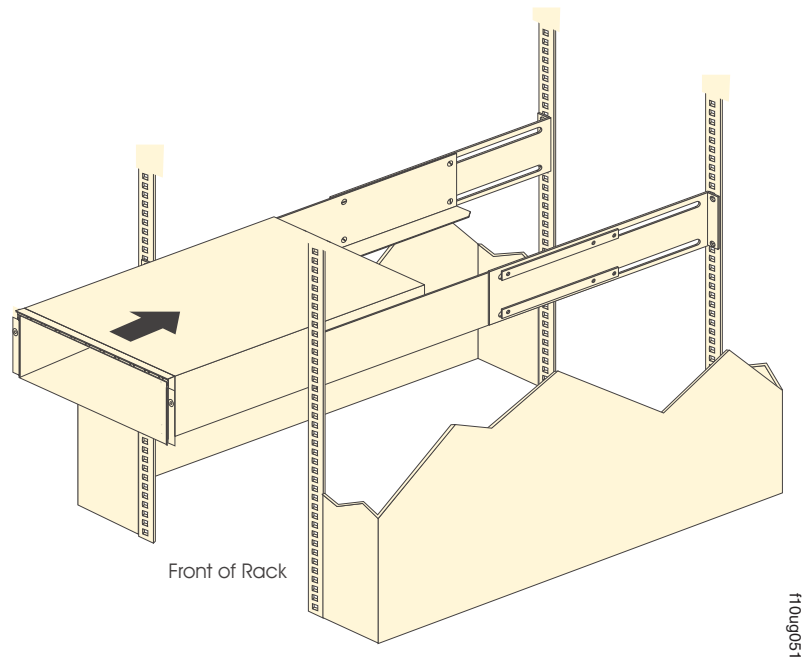

Figure 16. Installing the DS4100
- b. With help from another person, place the back of the storage subsystem on the support rails. Slide the unit into the rack cabinet, as shown in Figure 16 on page 31.